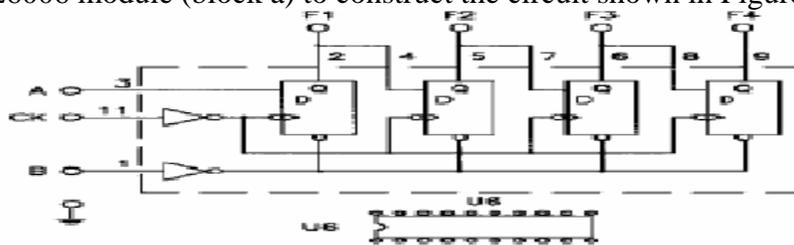

Figure.15: Shift Right Register
1. Use KL-26006 module (block a) to construct the circuit shown in Figure.15